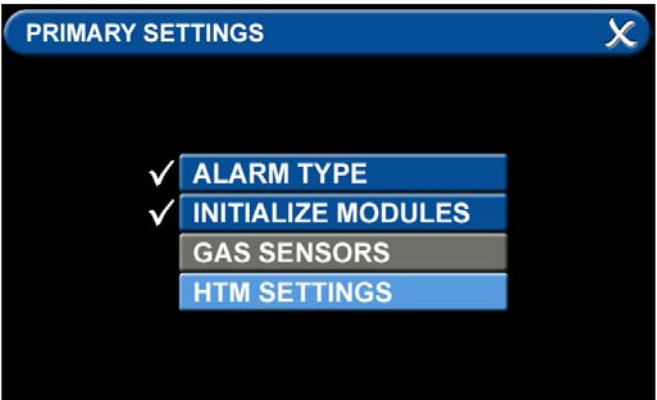

Figure 153: Medipoint Network Setup
- To transmit and recieve signals, the HTM Settings tab has to be initialized (Figure 153).